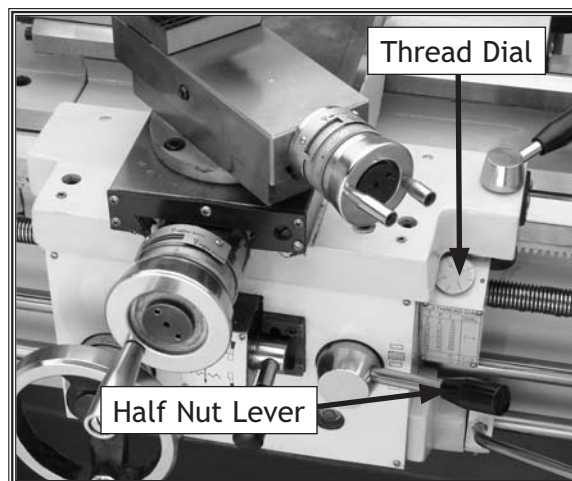

Figure 61. Halfnut and thread dial locations.
7. Turn **ON** the spindle to verify settings. Check to see that the lead screw is turning and verify that the apron moves in the correct direction by engaging the half nut lever shown in **Figure 61**.